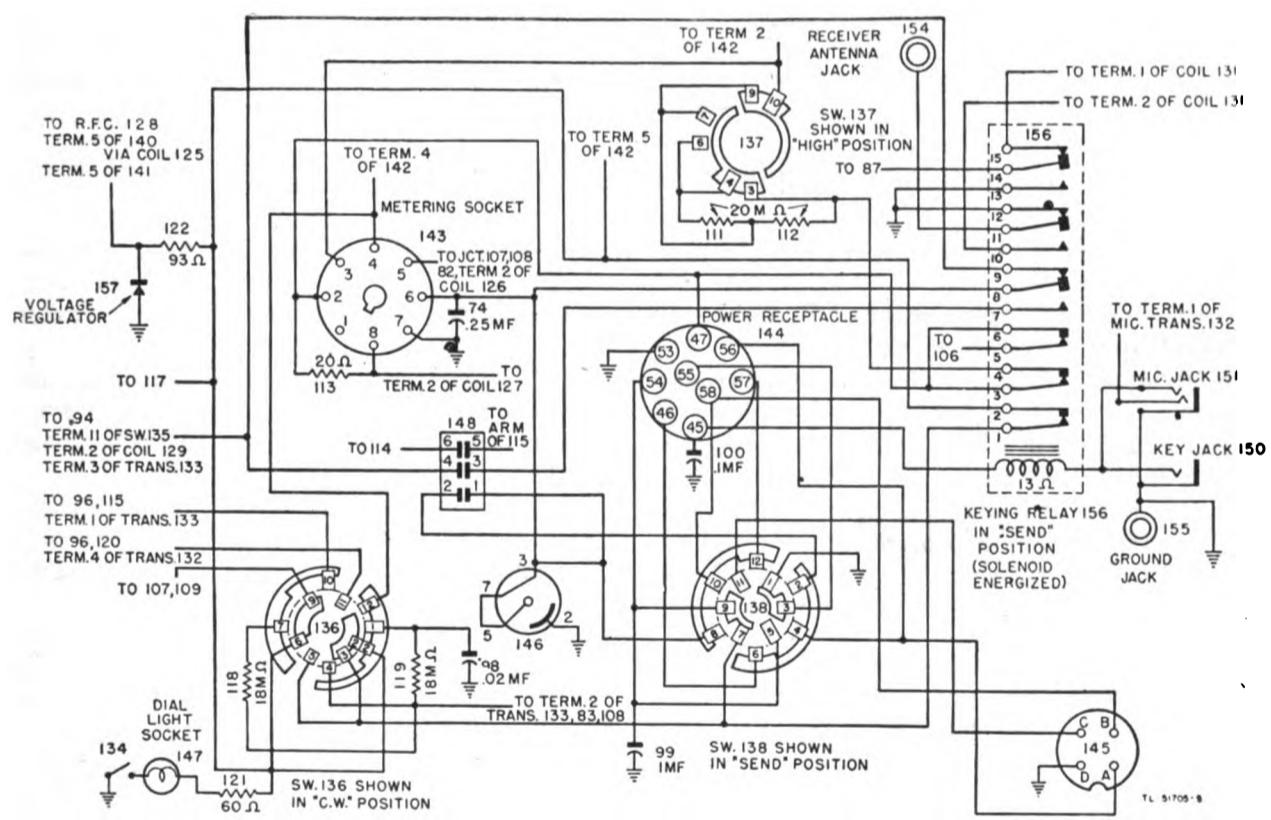

Figure 51. Power and switching connections schematic for transmitter of Radio Receiver and Transmitter BC-1306.
(c) Connections to other circuit components with this switch in the CW position are shown on figure 51.
(c) Connections to other circuit components with switch 137 at HIGH are shown in figures 51 and 57.
(e) Connection to other circuit components with switch 138 set at SEND are shown in figure 51.
(8) *Power and switching connections.* (a) Power and switching connections are shown in figure 51.
Table XXVIII. Parts data, power and switching schematic, transmitter (fig. 51.)